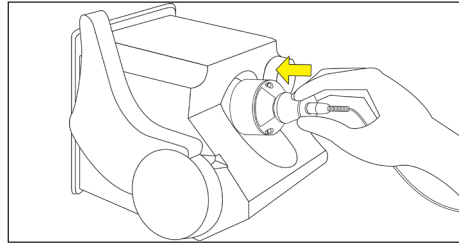

Figure 7. Position the power module.
- (b) Position the power module near the base of the TripSaver II recloser, as shown in Figure 7; the module will be held in place magnetically.